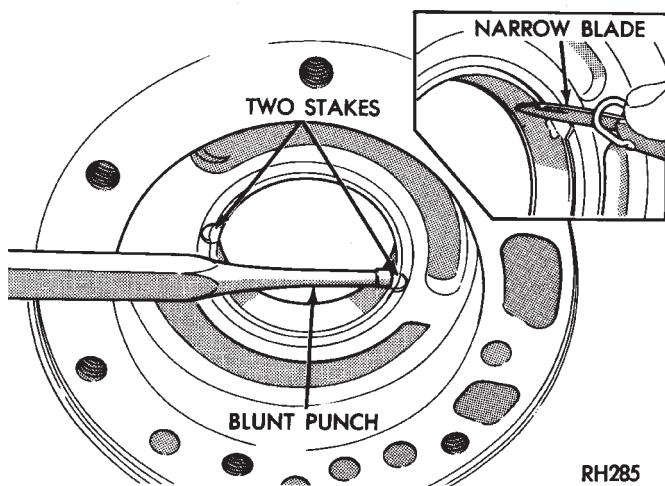

Fig. 58 Staking-Deburring Oil Pump Bushing
(6) Stake pump bushing in two places with blunt punch. Remove burrs from stake points with knife blade (Fig. 58).